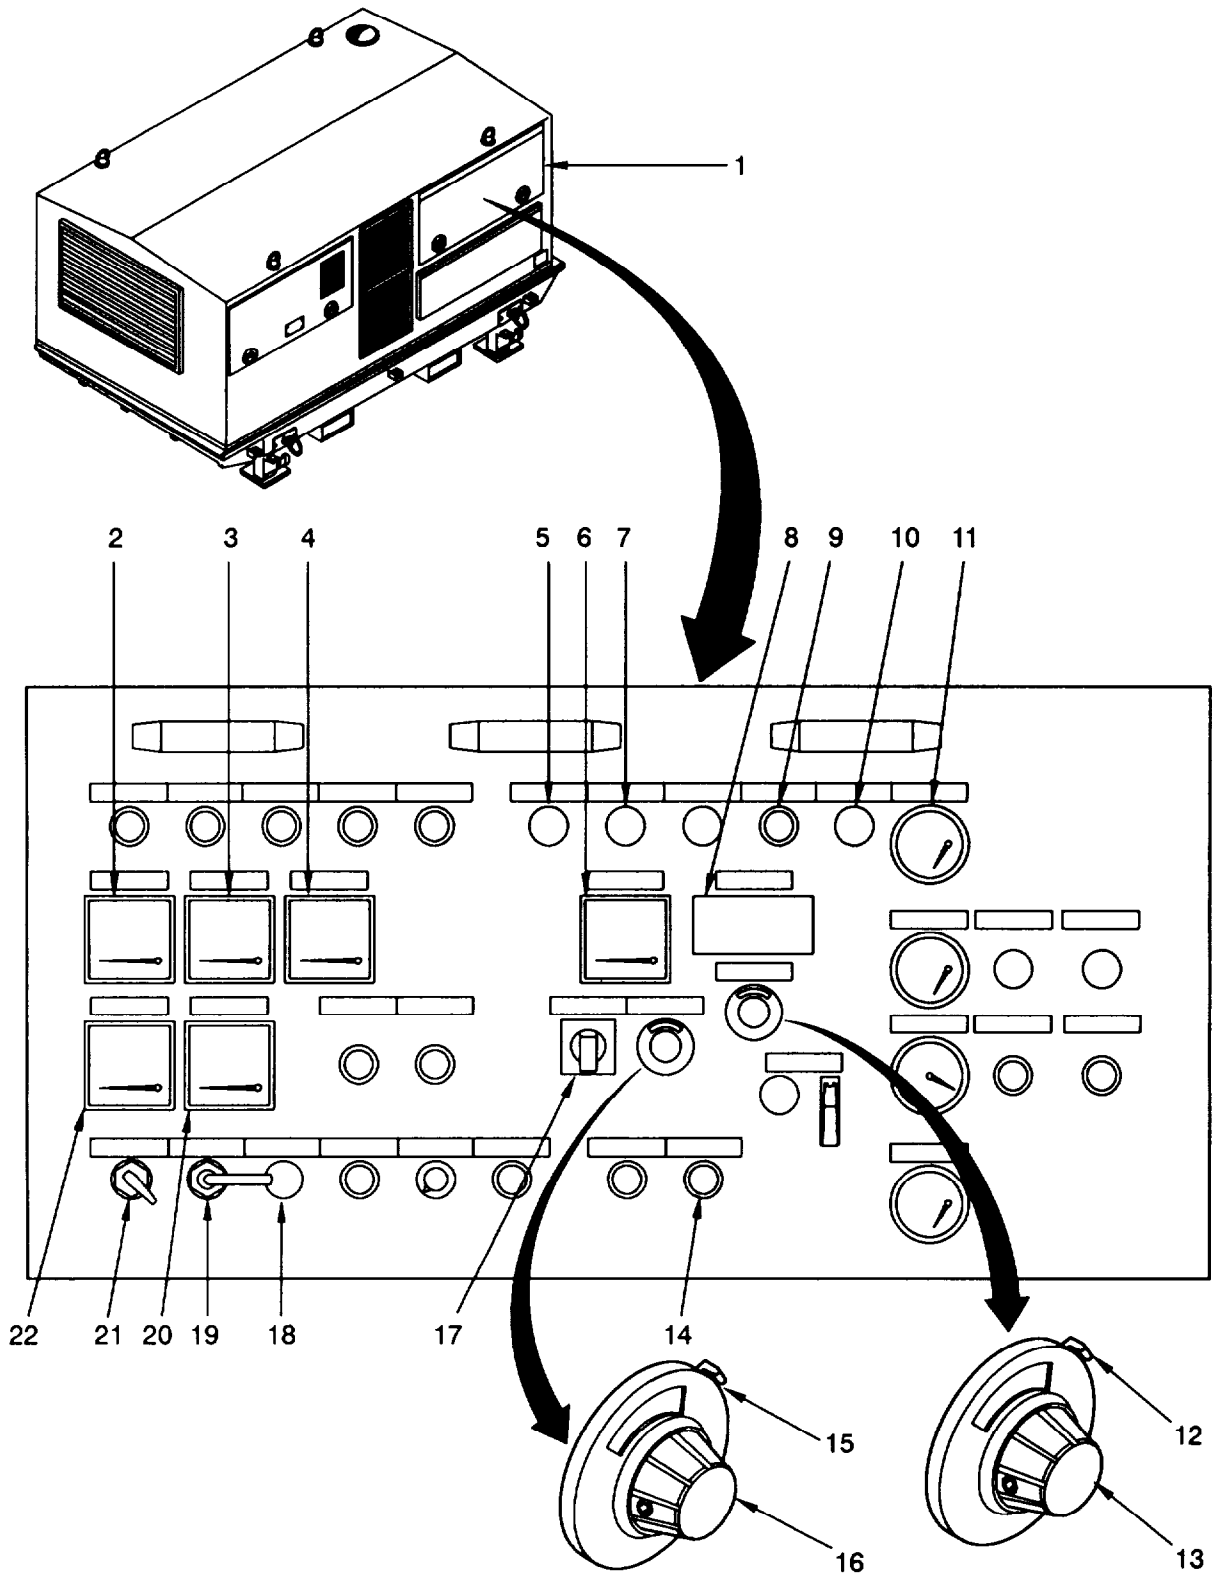

Figure 2-18 Operating the Generator Set 150 kW.
- If the diesel engine does not run smoothly or emits dense whitish gray-smoke, set the GLOWPLUG/START rotary switch (19) back to GLOWPLUG and repeat the glowplug procedure (maximum duration: 3 minutes).
- a. Open flap (1, figure 2-18) and turn MASTER SWITCH (21) to ON
- b. Turn GLOWPLUG/START rotary switch (19) to START and hold:
- d. Read OIL PRESSURE meter (11, figure 2-18): 3 - 5 bars.
- l. Set VOLTAGE SELECTOR SWITCH (17) to L1-N, then L2-N, then L3-N, and check VOLTAGE meter (6): 120 ± 1 V.
- m. At temperatures below 32 °F (0 °C), allow the diesel engine to warm up for approximately 10 minutes before actuating the AC CIRCUIT INTERRUPTER ON illuminated pushbutton switch (14).
- a. Press AC CIRCUIT INTERRUPTER ON illuminated pushbutton switch (14, figure 2-18):